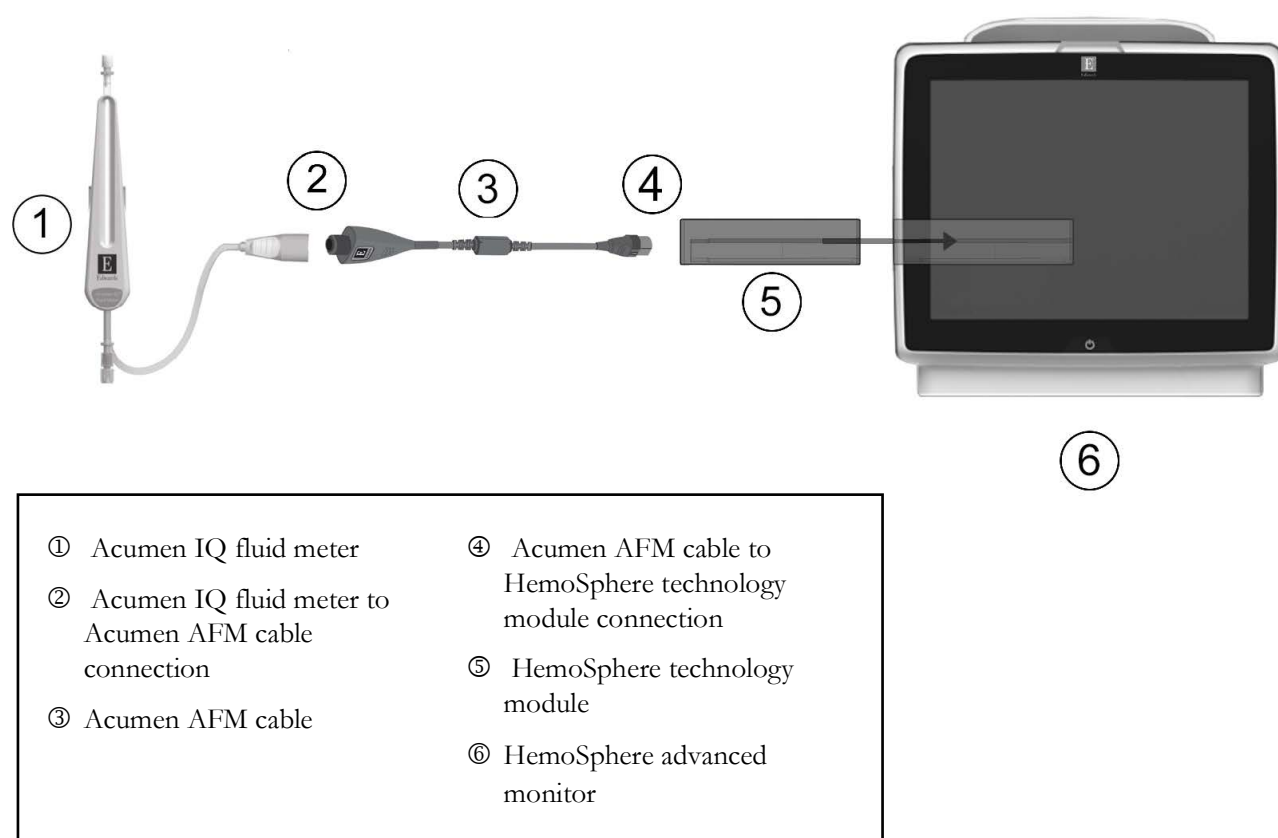

Figure 14-15 Acumen IQ fluid meter and Acumen AFM cable connection overview
- 4 Connect the Acumen IQ fluid meter to the end of the Acumen AFM cable indicated by ② in figure 14-15.